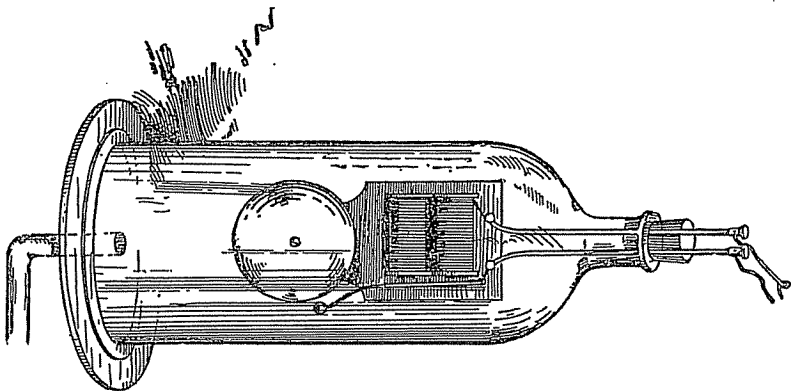

FIG. 17
**Experiment No. 9.** An electric bell is suspended in a jar. (See Figure 17.) Now if an electric current sets the bell in vibration, sound is produced. If, by means of an air pump, the air in the jar is pumped out, still keeping the bell in vibration, gradually the sound becomes fainter and fainter until a vacuum is created, when the sound will be entirely silenced. Therefore, sound will, evidently, not be carried in a vacuum, but it will travel through air.